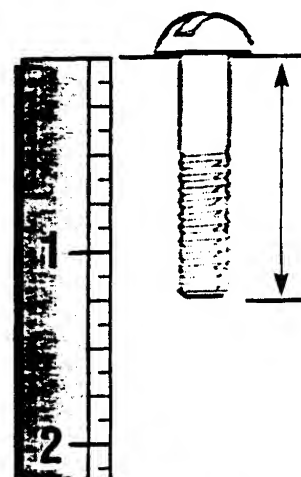

Figure 2-1: To identify length of screws, place screw on template as shown and measure distance between bottom of screw head and tip of screw.
3. Remove all unassembled parts and the separate hardware bag from the carton. Check that you have the items listed in the *Loose Parts List* (contact your local dealer or the factory items are missing or damaged). NOTE: Use the screw length template (Fig. 2-1) to identify screws.